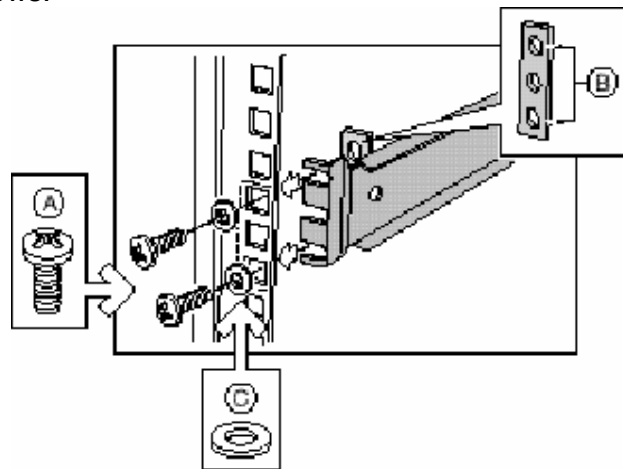

**Figure 36: Attaching the Rails**
1. Position an inside rail (Figure 36, A) along one side of the chassis with the finger tab facing outward and located closer to the rear of the chassis.
2. Align the holes (C) in the rail with the tabs (D) on the chassis and place the rail against the chassis.
4. Fasten the rail to the chassis using screw (B).